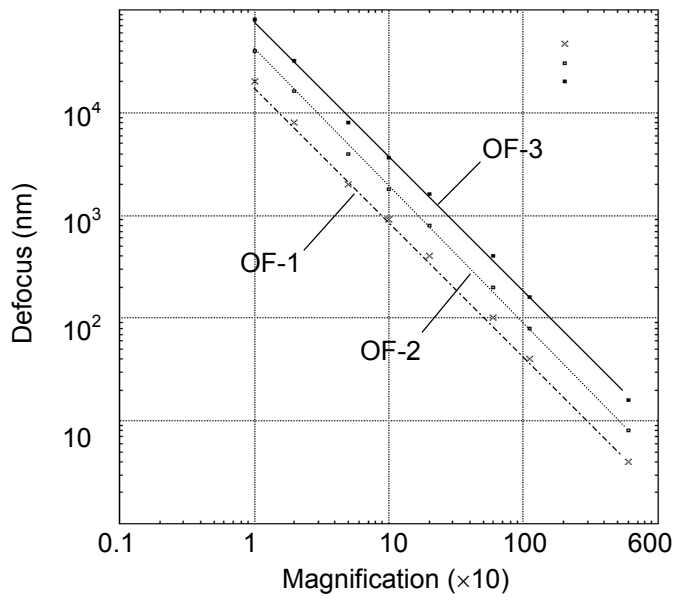

Fig. 3-51 Optimum Underfocus and Magnification
- 3) The optimum focus level is linked with the magnification as shown in Fig. 3-51. You can select an optimum level according to the magnification and specimen. The optimum focus level changes with the film enlarging ratio and defocus amount, so set a value that appears to be optimum.